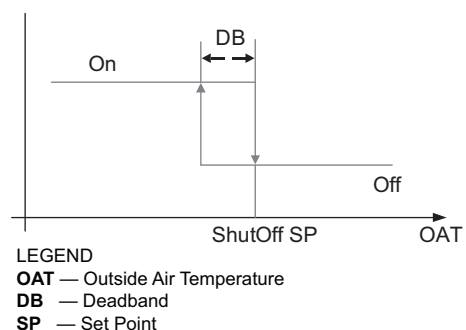

Fig. 79 — Hysteresis Settings
Hysteresis setting (DB) defaults to 2°F (–17°C). See Fig. 79.